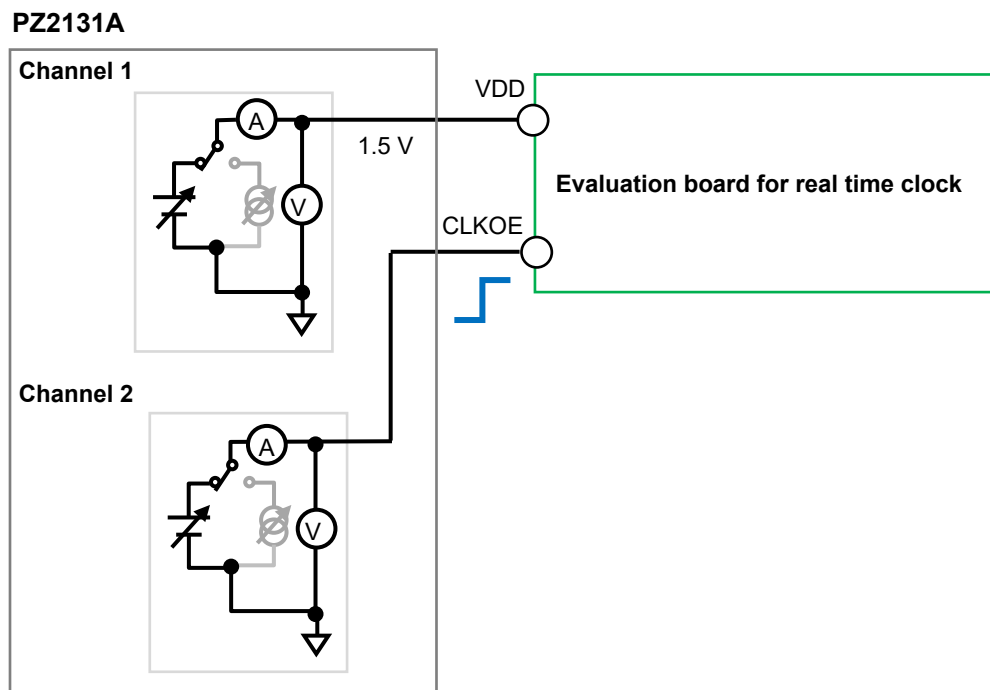

Figure 7. Test setup of a measurement example of the RTC evaluation board
- Figure 7 shows the connection diagram between a PZ2131A and an RTC evaluation board.